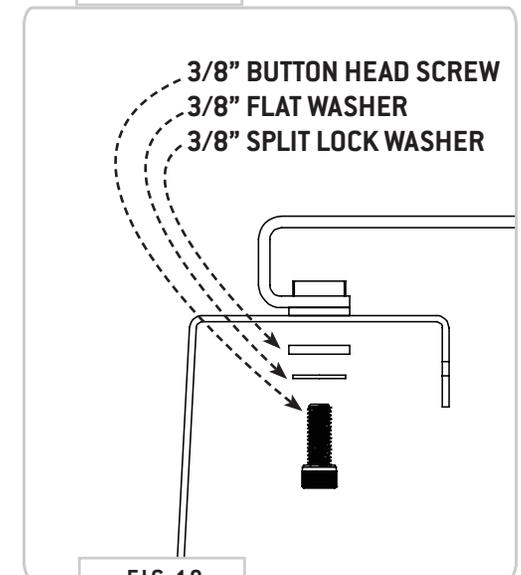

FIG 10
**3.1** Once you have the bed rails up and fully mounted, you can simply place the bed panels on and fasten them to the rails using the **3/8-16" Socket Cap Screws, 3/8" Flat Washers and 3/8" Split Lock Washers (FIG 10)**.